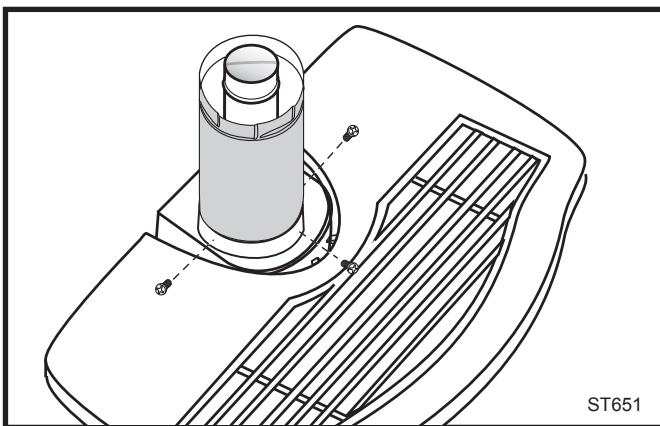

Fig. 23 Simpson DuraVent - install outer adapter pipe.
- 2. Install the Outer Adapter Pipe.** Orient the vertical seam to the rear, and insert the crimped end of the outer pipe into the flue collar. Fasten with three sheet metal screws provided. (Fig. 23)